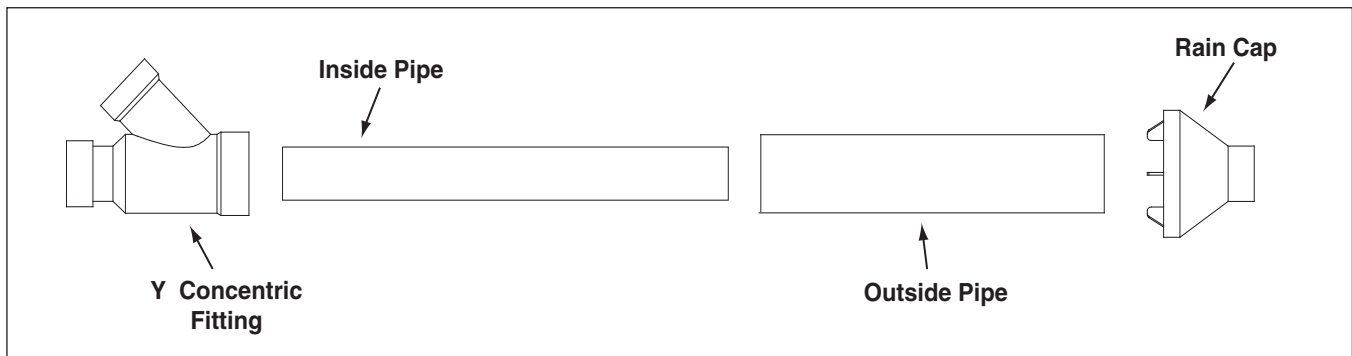

Figure 1. Kit Components
The Concentric Vent Termination Kit is shipped assembled but not cemented. Disassemble the kit and cement per Figures 1 and 2.
3. Partially assemble the concentric vent termination kit per Figures 1 and 2.
- a. Cement Y concentric vent fitting to larger diameter kit pipe. (See figure 1.)
- b. Cement rain cap to smaller diameter kit pipe. (See figure 1.)
- a. Cement Y concentric vent fitting to larger diameter kit pipe. (See Figure 1.)
- b. Cement rain cap to smaller diameter kit pipe. (See Figure 1.)